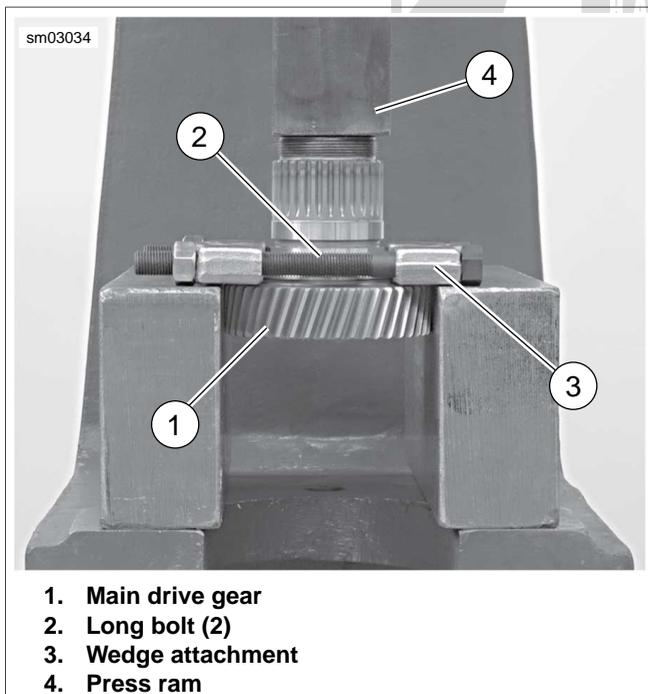

Figure 7-36. Removing Inner Bearing Race From Main Drive Gear
- See Figure 7-36. When the main drive gear is removed, a portion of the bearing inner race remains attached to the main drive gear. If the main drive gear is to be re-used, this inner race must be removed first.
10. See Figure 7-36. Use WEDGE ATTACHMENT (Part No. HD-95637-46B) and LONG BOLTS (Part No. HD-95637-10) to remove inner race from main drive gear.